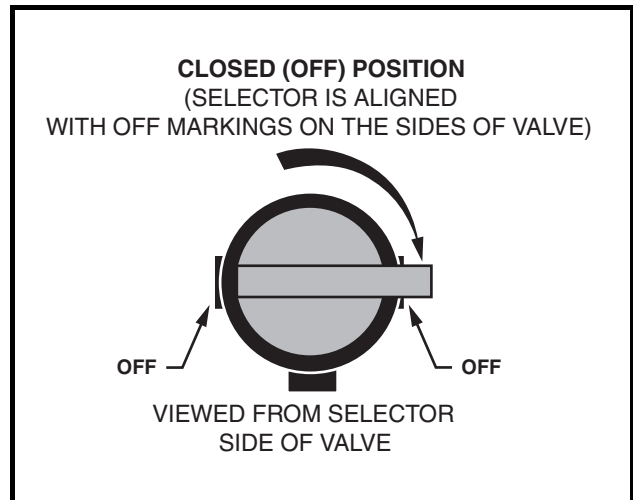

Figure 3-5 Fuel Valve – Closed
- 5.1. Turn the fuel shut-off valve to the closed (OFF) position (**Figure 3-5, Page 3-3**) and run the engine until it stalls. **See DANGER “Do not operate gasoline vehicle...” in General Warning, Section 1, Page 1-1.**